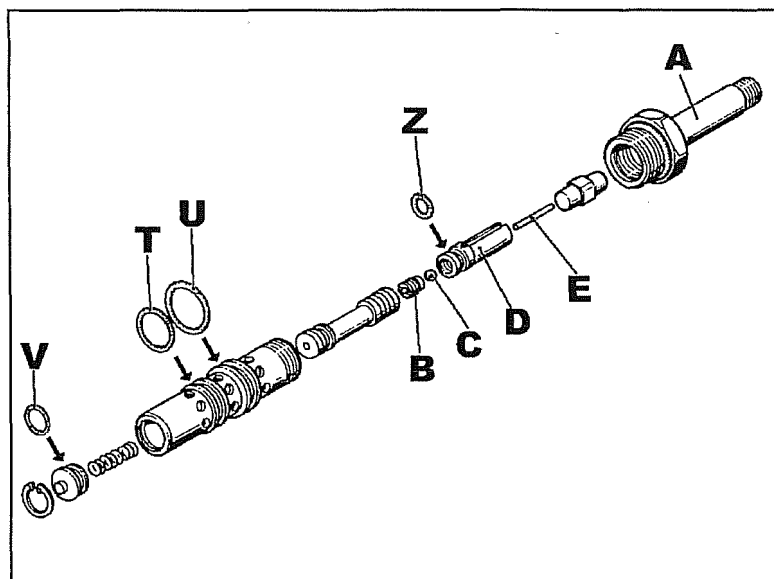
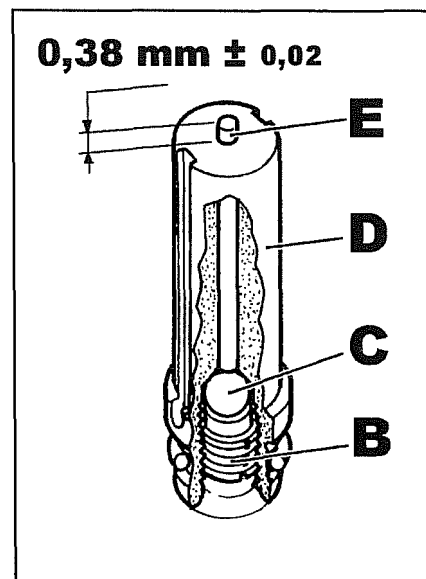

Fig. 20
Fig. 21
- 28 Remove the solenoid from the solenoid valve ass'y and dismantle it as shown in fig. 20.
Check the condition of seals **T-U-V-Z** fig. 20 and change them as needed. Wash the parts to eliminate all dirt.
As regards assembly **D** fig. 20 whose components are illustrated in fig. 21, just wash it are removing pin **E** and then blow compressed air through the holes in the outer casing without removing grub screw **B** and ball **C**.
- If grubscrew **B** was remove or dismantled, parts **B-C-D-E** in fig. 21 should be reassembled with the following pointers:
- pin **E** illustrated in fig. 21, must protrude **0.38 mm** with a $\pm$ tolerance of **0.02 mm**. The one with the concave head must be towards the ball.